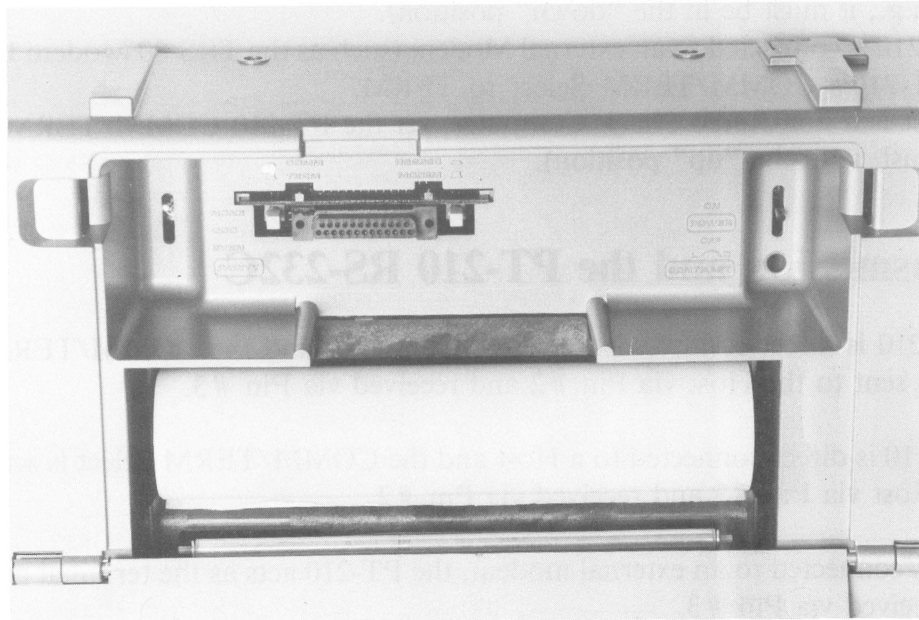

Figure 7. RS-232C Interface Card Installed
3. Slide the card down the grooves until the plug seats firmly into the jack at the bottom. The DB-25 jack will protrude from the top of the hole. See Figure 7.